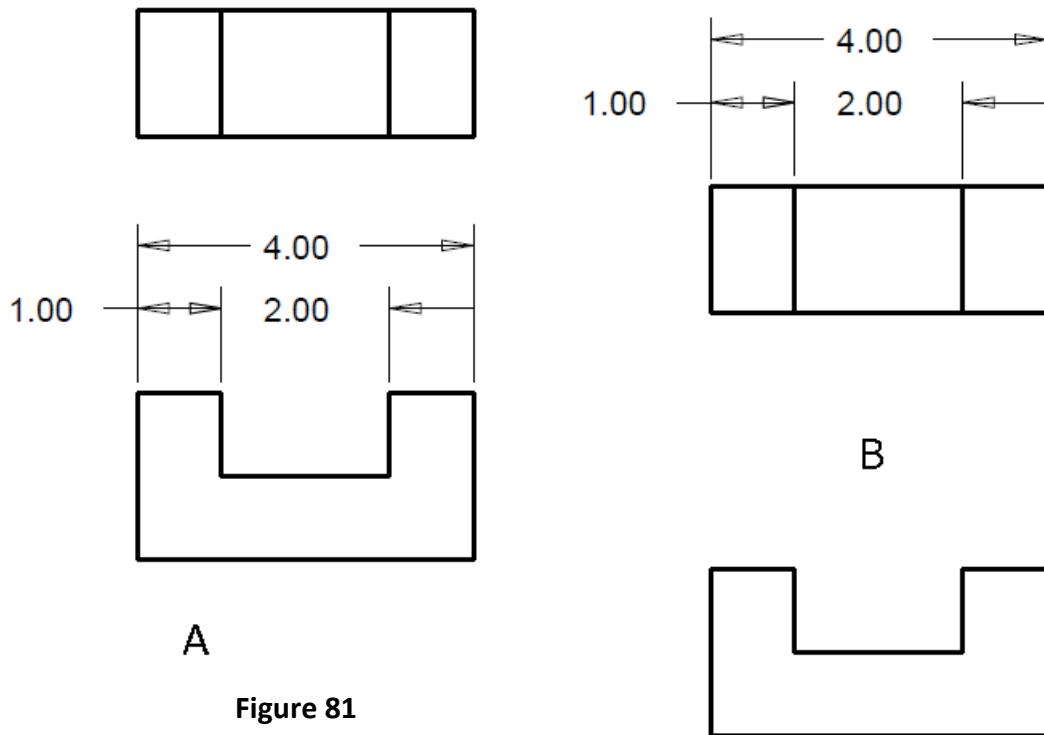

Figure 81
Contour dimensioning is simply to place the dimensions in the view that best shows the shape, or contour, of the feature being illustrated. Consider the three width dimensions associated with the block shown in Figure 81. On the left side (A), the dimensions are in the front view where the reader can “see” the notch that is cut out of the block. On the right side (B), the dimensions are numerically correct and show the same information, but are not as clear.